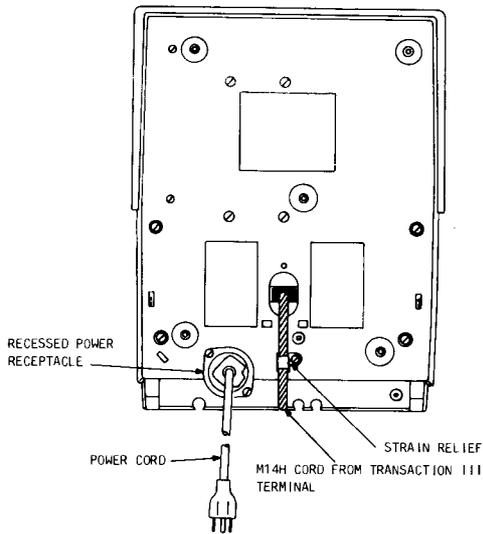

Fig. 11—Bottom View of 5000A Printer
(2) Turn printer onto either side. Connect the M14H cord from the 5000A terminal set by plugging the keyed connector into bottom of the printer and secure the strain relief using the screw provided (Fig. 11).
(3) Connect end of printer power cord into recessed power receptacle in the bottom of the printer (Fig. 11) and place printer upright. **Do not connect cord to ac outlet at this time.**